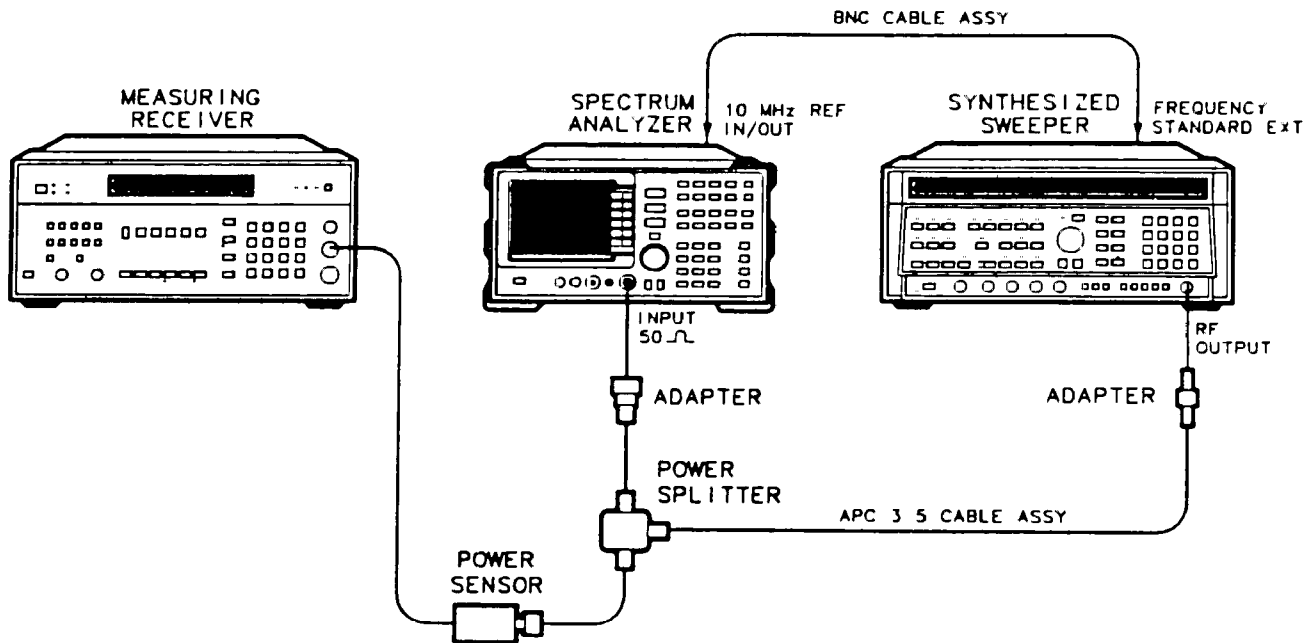

Figure 3-16. Frequency Response Test Setup, 50 MHz to 22.0 GHz
2. Connect the equipment as shown in Figure 3-16.